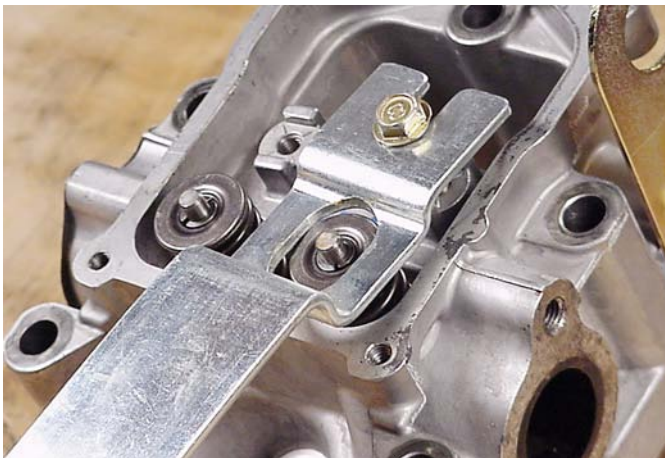

Fig. 80
2. Thread rocker arm support screw into cylinder head a few turns and compress spring with valve spring compressor, Tool #19347, Fig. 80. Remove the following: